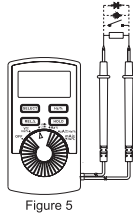

Figure 5
5. Testing Diodes and Continuity(See Figure 5)